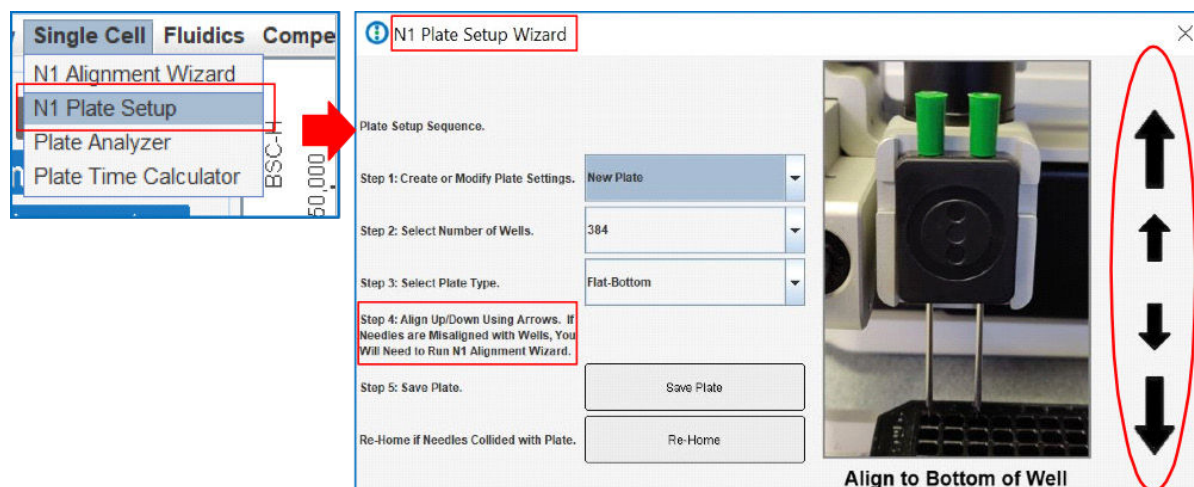

Figure 65. The N1 Plate Setup Wizard.
1. Select “N1 Plate Setup” from the Single Cell main menu tab (Fig. 65).
5. Click “New Plate” from the dropdown menu (Fig. 65).